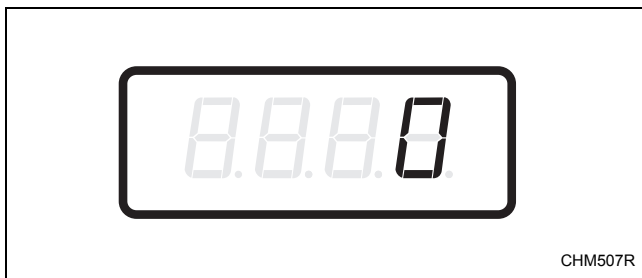

Figure 23
2. When “SA19” appears in the display, press the START (enter) keypad. There are five digits in the Special Vend A Vend Price #9. The fifth digit will appear in the display and will flash one second on and one second off. Refer to *Figure 23*.